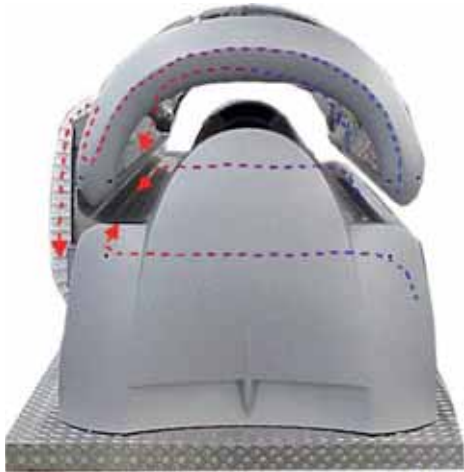
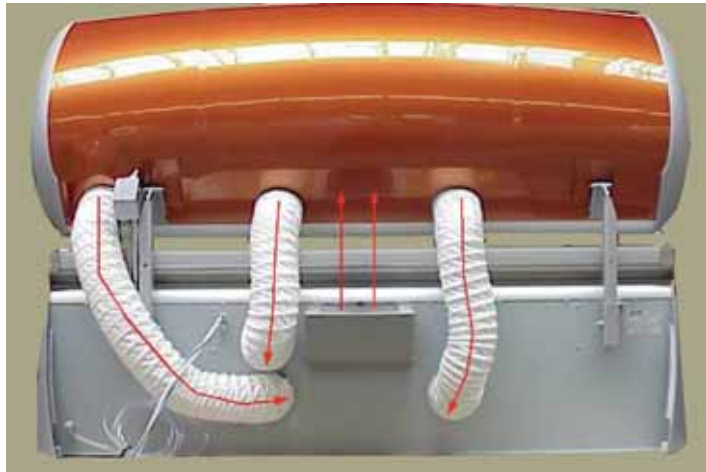

Figure 3-20 Unit cooling
Figure 3-21 Exhaust air of the canopy and exhaust-air fan (assembly photo not showing the exhaust-air hose)
*Unit cooling:* The air for cooling the tubes and burners in the canopy section is sucked in through the upper filter mat. Ambient air for cooling the tubes in the base section is sucked in through the front filter mat in the base section. The fan collects the cooling air coming from above and below, which is then blown off through the exhaust-air flue (see Figure 3-20 and Figure 3-21).